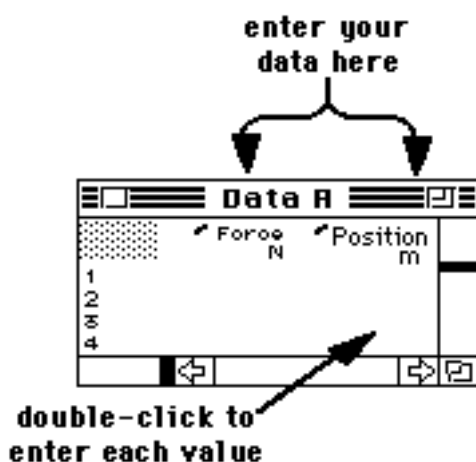

Figure 15. Table for entering the spring force and cart position for Activity 4
- Select **Data A Table** under the **Windows** menu. You should see a new window labeled "**Data A**" similar to that shown in Figure 15. Enter numerical data directly into the table in the spaces shown.
- Record your spring force and position values in the two columns in the on-screen table (see Figure 15).